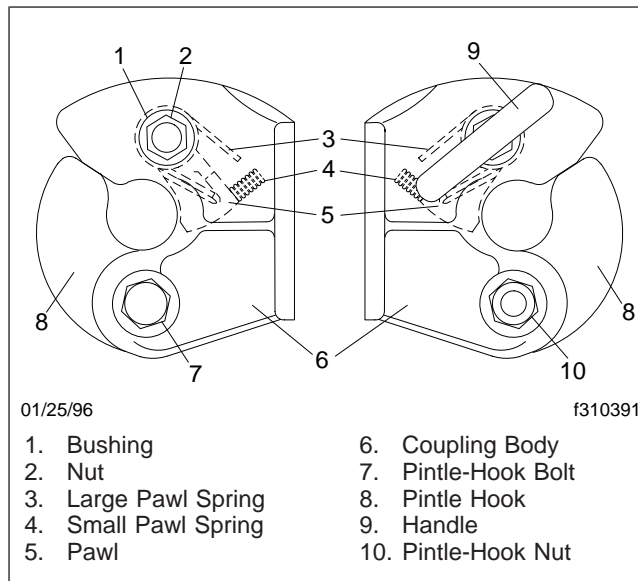

Fig. 1, Trailer Coupling Parts
2. Remove the pintle-hook nut and bolt, then remove the pintle hook from the coupling body. See **Fig. 1**.